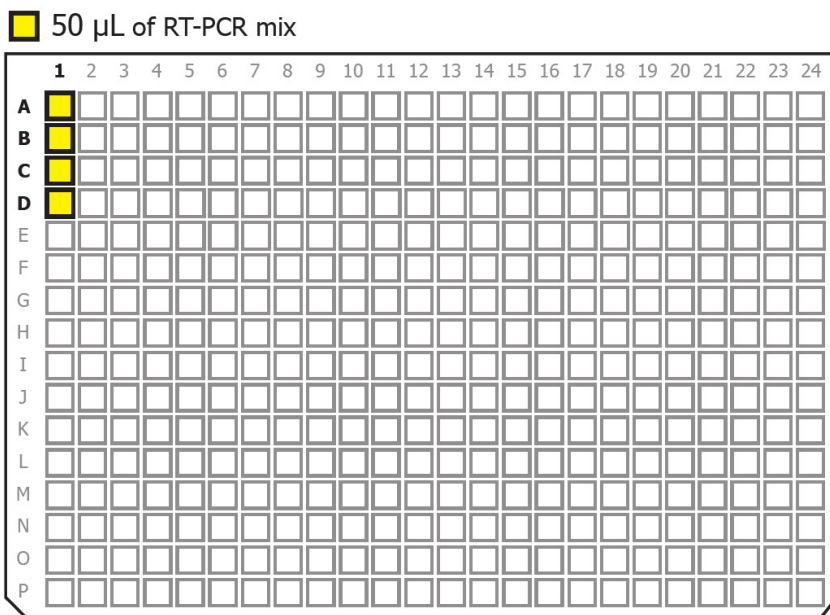

Figure 40. Setting up the source plate for dispensing RT-PCR mix.
- Pipette 50 µl of the RT-PCR reaction mix into wells A1, B1, C1, and D1 of a MSND 384-Well Source Plate, as shown in Figure 40.